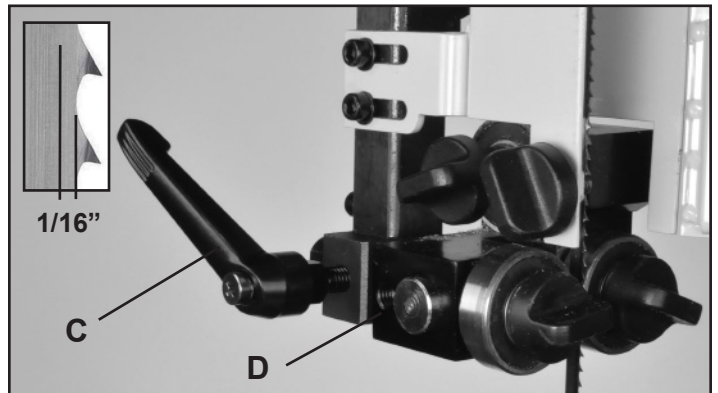

FIGURE 23
2. The guides should be approximately 1/16" behind the gullets of the saw blade. If they need to be moved, loosen the back Clamp Handle (#31C, Fig. 23, C) and move the Upper Guide Block (#20C, D) that holds the guides so that the guides are properly positioned behind the blade gullets. Re-tighten the handle when done. Fig. 23.